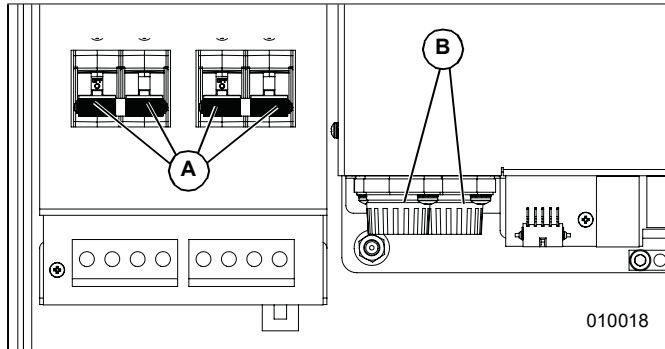

Figure 7-2. Removing Wiring Compartment Cover
5. See Figure 7-2. Locate DC fuse holders (B).